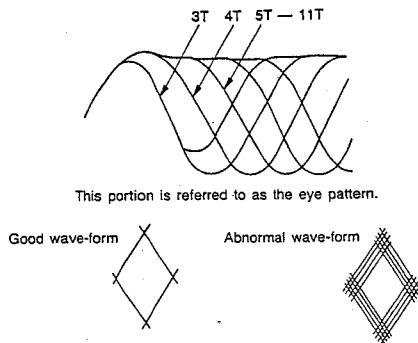

Fig. 2
- 3) Adjust VR3 until the eye pattern is at maximum and is as shown in Fig. 2.